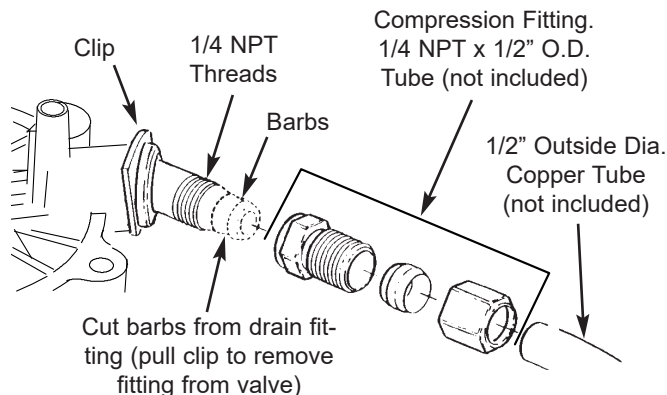

FIG. 6
Using the flexible drain hose (included), measure and cut to the length needed. Flexible drain hose is not allowed in all localities (check your plumbing codes). If local codes do not allow use of a flexible drain hose, a rigid valve drain run must be used. Purchase a compression fitting (1/4 NPT x 1/2 in. minimum tube) and 1/2" tubing from your local hardware store. Plumb a rigid drain as needed (See Figure 6).
3. Place bypass valve(s) in “bypass” position (see Figures 6 & 7). On a single valve, slide the stem inward to bypass. On a 3-valve bypass, close the inlet and outlet valves and open the bypass valve.